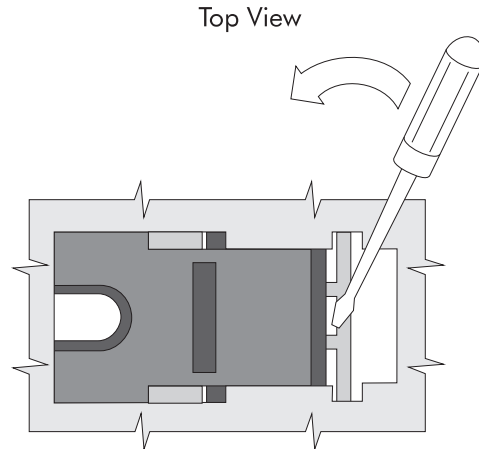

Figure 85. Removing and replacing the slide latches
4. Gently pry and press at the point shown in Figure 85.